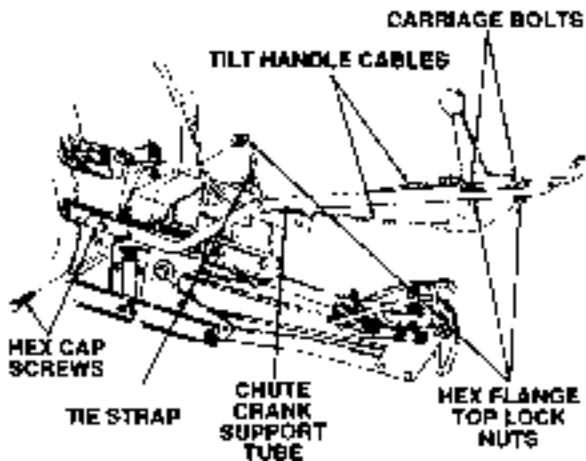

Figure 7-28. Installing Chute Crank Support Tube and Tilt Handle.
4. Install the chute crank support tube (2, Fig. 7-24) onto the frame of the snow thrower assembly (1) using the hex cap screws (12) and hex flange lock nuts (8). Refer to Figure 7-28.
6. Secure the cables of the chute tilt handle assembly (9) to the support tube (2) using one tie strap (25) as shown in Figure 7-28. Cut off excess on end of tie strap.